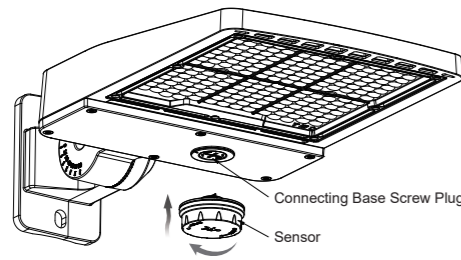
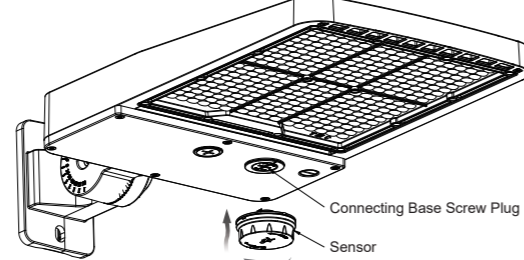

Figure 21
Figure 22
2. The sensor positions for 150W & 200W models are shown in Figure 21, and the position for the 300W model is shown in Figure 22.